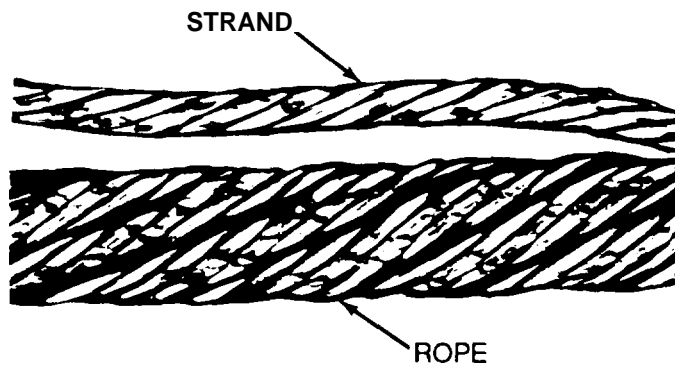

Figure 4-44. *Interstrand and Core-to-Strand*
1. Interstrand and core-to-strand nicking: A strand has been removed from the rope to show the equivalent lines of nicking where strands are in contact with one another, as well as with the core (Figure 4-44).